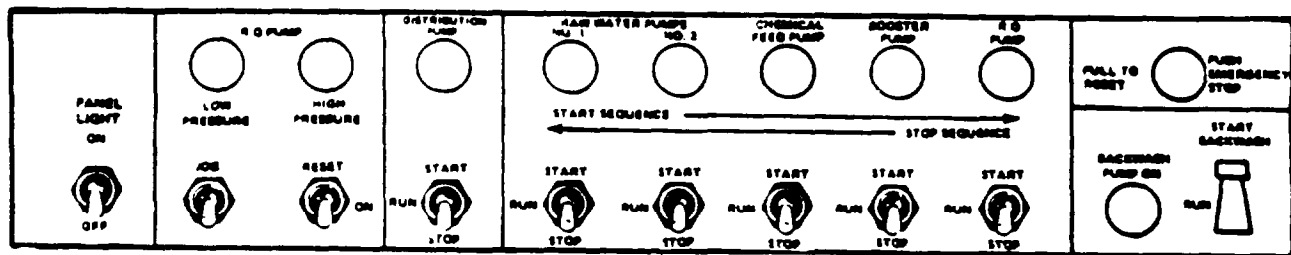

Figure 2-41. Control Box Switches
5. VENT PRODUCT WATER (see fig. 2-41)